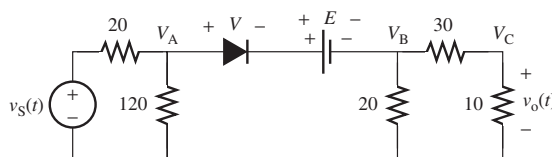

FIGURE P8.20 Voltage limiter.
- 8.20(H)* Find $v_o(t)$ with respect to $v_S(t)$ for Figure P8.20 if $E = 2.3\text{ V}$.